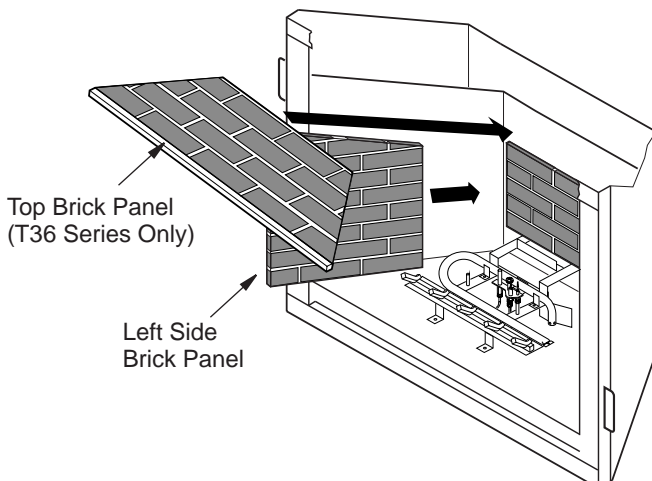

Figure 39 - Installing Left Side and Top Brick Panels
6. Install top brick panel (36" Series only) by resting on the top of the rear panel. Hold the top brick panel in place and install left side brick panel by sliding it between the grate and the side of the firebox, securing top panel (see Figure 39).